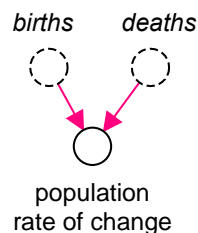

Figure 18: Computation of population rate of change
- Ghost the flows *births* and *deaths*, and connect to a new converter *population rate of change*, Figure 18, where the formula is:  $population\ rate\ of\ change = births - deaths$